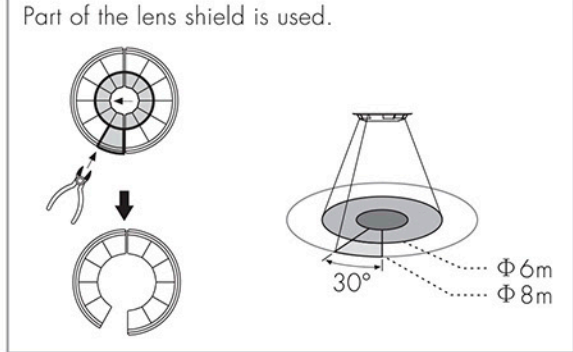

FIG. 13-D
- The shadow part of the lens shields in the FIG.13-A & FIG.13-B & FIG. 13-C & FIG.13-D are referring to the cut-off parts.